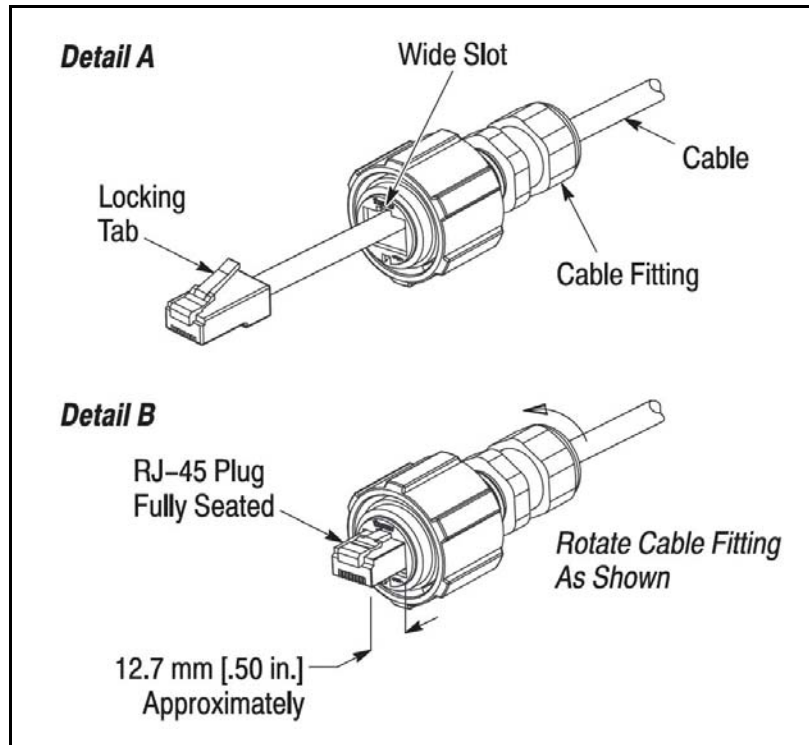

Figure 11-5: Assembly Detail
- Align the locking tab of the RJ-45 plug with the wide slot at the front (end opposite the cable fitting) of the plug assembly. See Figure 11-5, Detail A.
- Depress the locking tab, and insert the RJ-45 plug into the plug assembly. Gently pull the cable until the RJ-45 plug is fully seated. There should be approximately 12.7 mm [.50 in.] of the RJ-45 plug protruding from the front of the plug assembly. See Figure 11-5, Detail B.
- While holding the RJ-45 plug in position, rotate the cable fitting as shown in Figure 11-5, Detail B until tightened to a torque of 1.13 N-m [10 lbf-in.].